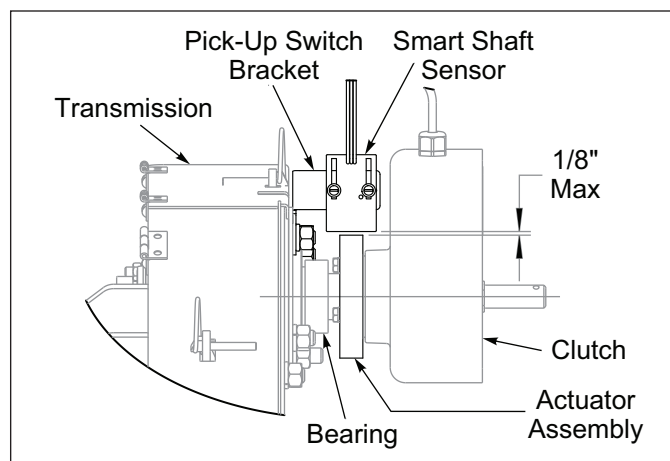
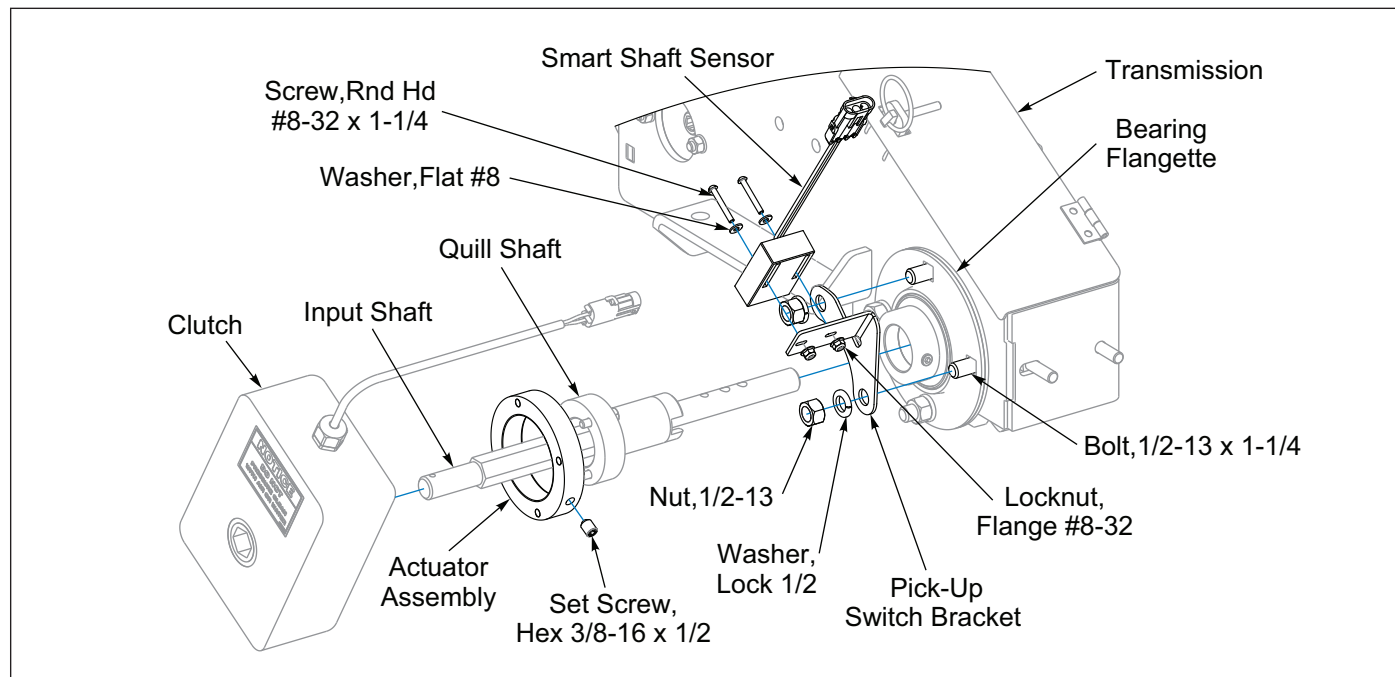

Figure 2-27: Ground Speed Sensor Detail
Figure 2-33: Brillion Elite Mini Monitor - Ground Speed Sensor
2. Remove Seeder Clutch. Install Actuator Assembly onto the Quill Shaft outer diameter, securing with Actuator Assembly Set Screw. Reinstall Clutch. **See Figure 2-33.** Install Pick-up Switch Bracket to the Transmission Input Shaft Bearing Flangette Hardware. Assemble Smart Shaft Sensor onto the Pick-Up Switch Bracket with sensor provided hardware and #8-32 Flange Locknuts. Adjust the Smart Shaft Sensor so that it is 1/8" Max away from the Actuator Assembly. **See Figure 2-27.** Connect Ground Speed Smart Shaft Sensor to the Center Seeder Harness.